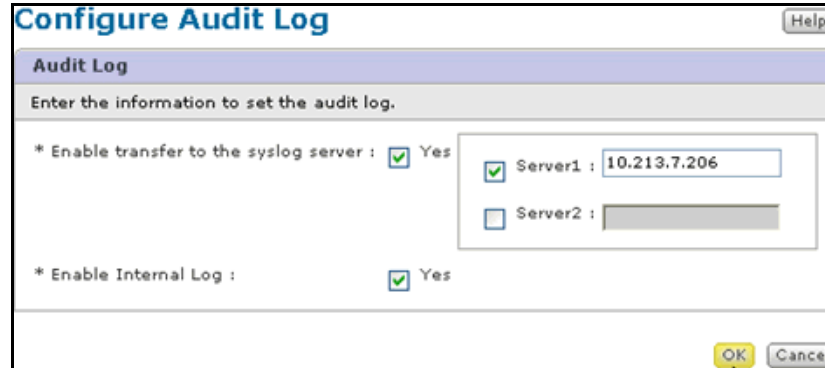

Figure 4-3: Audit Logging Window-Audit Log Tab
5. Click **Configure Audit Log**. The Configure Audit Log window is displayed. See Figure 4-3.